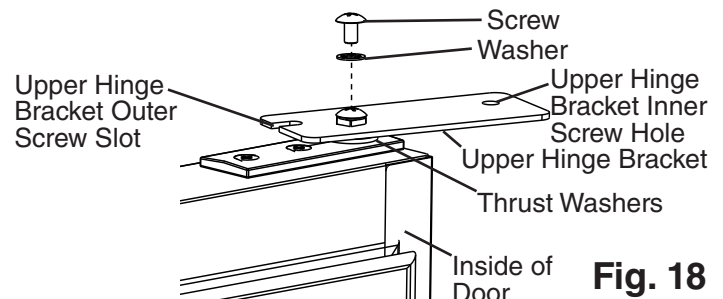

Fig. 18
- 11) Make sure the thrust washers are in place on the spring cartridge, then flip the upper hinge bracket over from its original position and install onto the spring cartridge in the door open position. See Fig. 18. The upper hinge bracket should be positioned as shown.